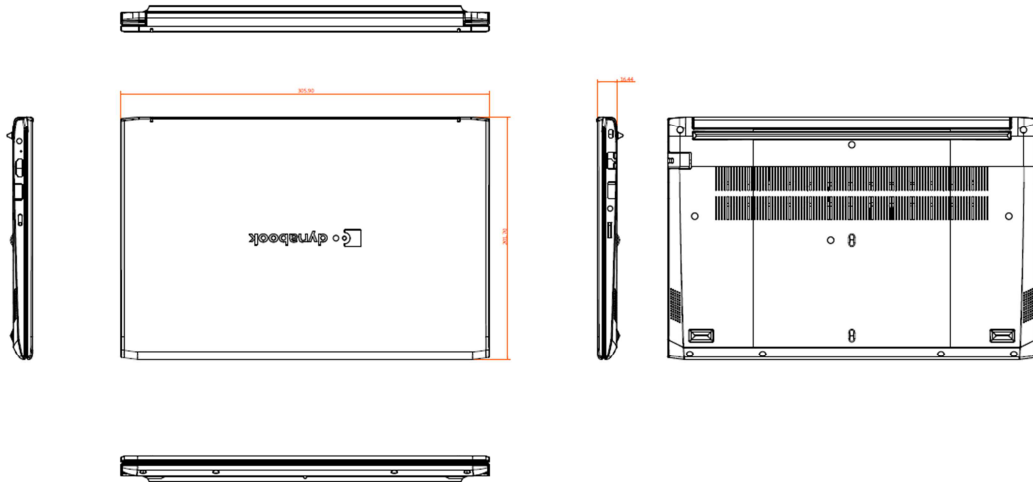

Figure 1-1 ID Parts Description Placement - Satellite C30-K
| Figure 1-1 | ID Parts Description Placement - Satellite C30-K..... | 1-8 |
- Figures 1-1 to 1-4 show the computer and its system unit configuration.